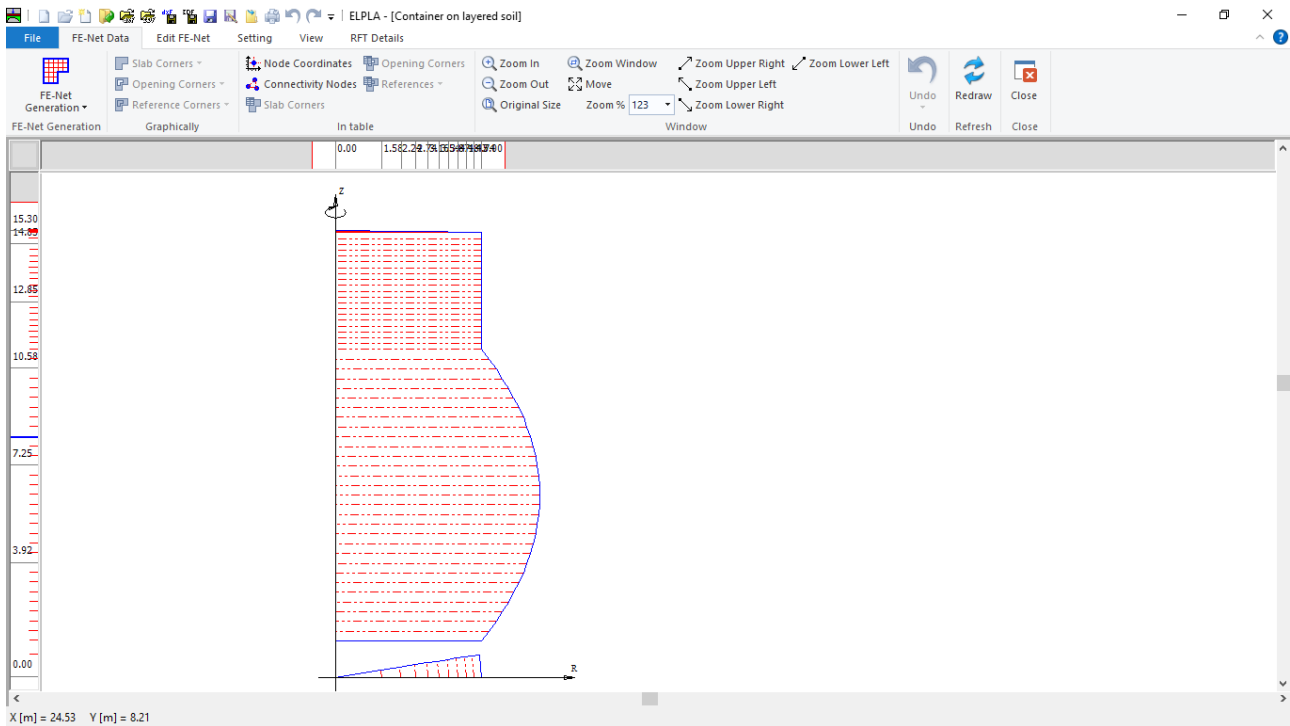

Figure 12.11 Generated FE-Net
ELPLA will generate the FE-Net of the container with a sector from the base with 10 circular intervals. The following window in Figure 12.11 appears with the generated net.
- Choose "Save" command from "File" menu in Figure 12.11 to save the data of the FE-Net
- Choose "Close" command from "File" menu in Figure 12.11 to close the "FE-Net" window and return to *ELPLA* main window